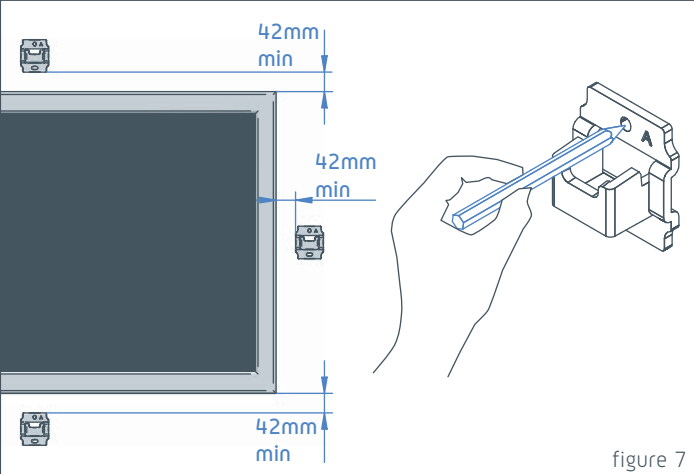

figure 7
- Using wall bracket (A) as a guide, mark out and drill wall anchor holes. If the Tryptix are to be mounted next to a display screen a minimum clearance of 42mm must be maintained between the screen edge and bracket. (figure 7)